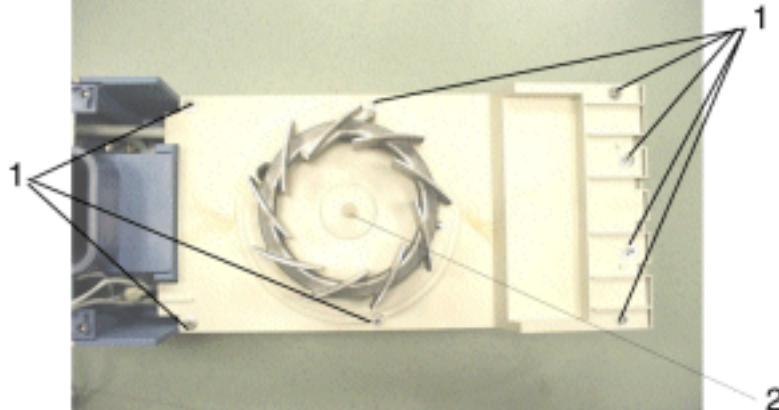

Fig. 211 Front view of the air heater
- 23. Secure air heater to aggregate housing using screws and washers (1) (The tightening torque of the screws is 3.5 +0.5 Nm), see Fig. 211.
- 24. Fit rubber sleeve (2) onto shaft of fan motor, see Fig. 211.